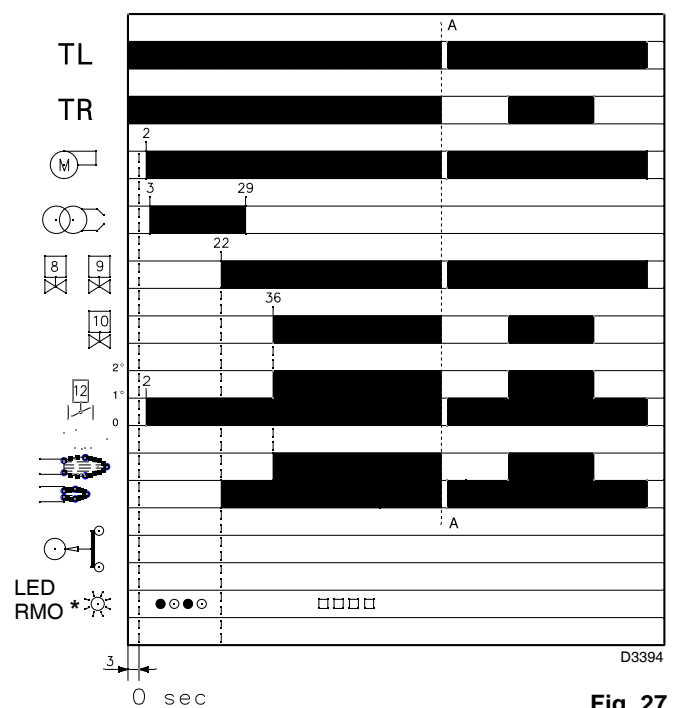

Fig. 27
- 2 s:** the fan motor starts. Servomotor 12)(Fig. 27) starts, air damper opens in 1st stage position.
If the temperature or pressure increase until control device TL opens, the burner shuts down (Section A-A in the diagram Fig. 27).